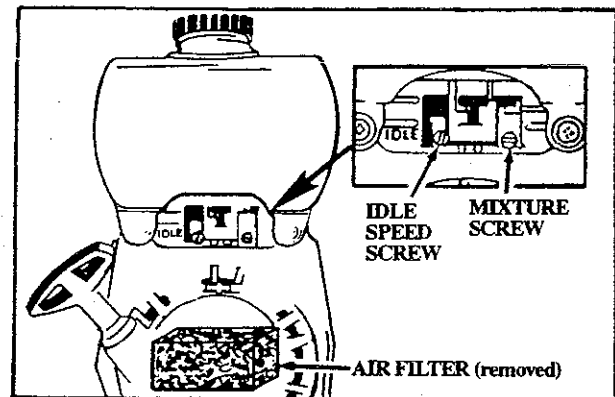

Figure 31
- Turn Mixture Screw (Figure 31) clockwise \rightarrow until fully closed, but do not overtighten to avoid damaging the needle seats. Open Mixture Screw one and one-eighth (1-1/8) turn counterclockwise \leftarrow .
- Turn Idle Speed Screw (Figure 31) clockwise \rightarrow until it stops. Open Idle Speed Screw five (5) full turns counterclockwise \leftarrow .